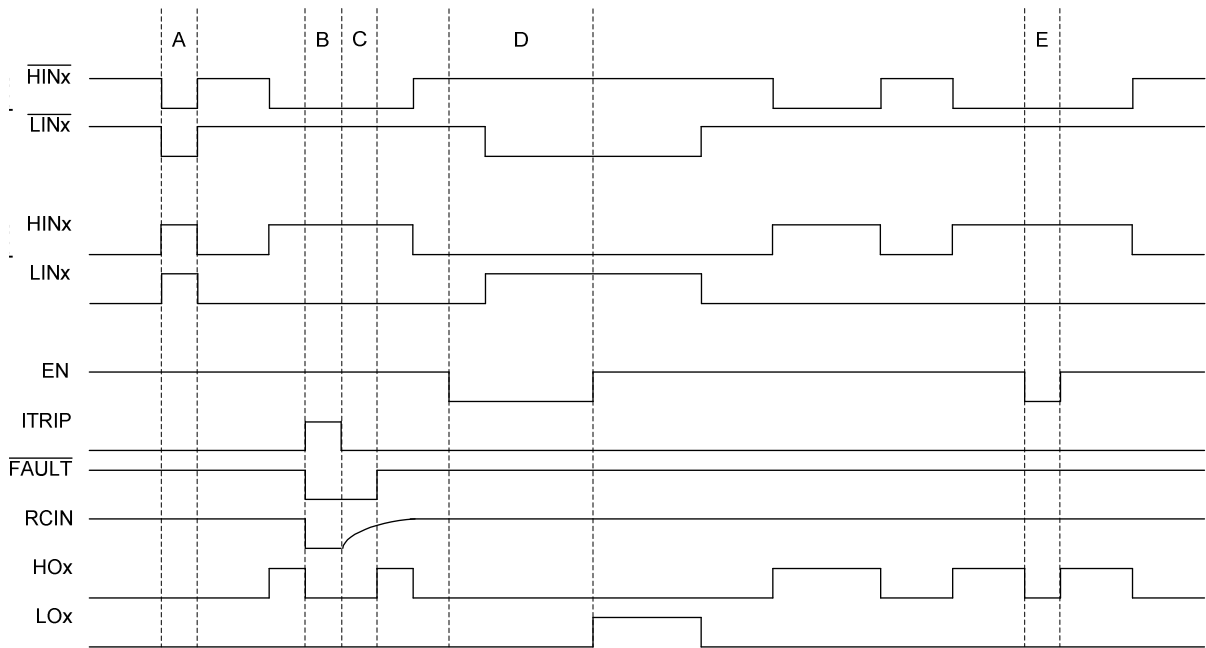
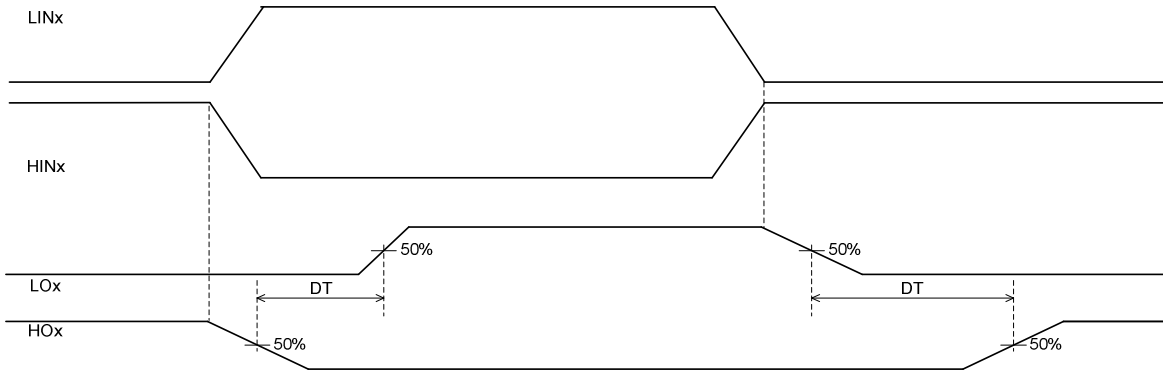

Figure 4: Input/output timing diagram
Figure 6: Illustration of deadtime
During interval A of Figure 4, the HVIC has received the command to turn-on both the high- and low-side switches at the same time; as a result, the shoot-through protection of the HVIC has prevented this condition and both the high- and low-side output are held in the off state.
Interval B of Figures 4 and 5 shows that the signal on the ITRIP input pin has gone from a low to a high state; as a result, all of the gate drive outputs have been disabled (i.e., see that HOx has returned to the low state; LOx is also held low), the voltage on the RCIN pin has been pulled to 0 V, and a fault is reported by the FAULT output transitioning to the low state. Once the ITRIP input has returned to the low state, the output will remain disabled and the fault condition reported until the voltage on the RCIN pin charges up to $V_{RCIN,TH}$ (see interval C in Figure 6); the charging characteristics are dictated by the RC network attached to the RCIN pin.
During intervals D and E of Figure 4, we can see that the enable (EN) pin has been pulled low (as is the case when the driver IC has received a command from the control IC to shutdown); this results in the outputs (HOx and LOx) being held in the low state until the enable pin is pulled high.
This family of HVICs features integrated deadtime protection circuitry. The deadtime for these ICs is fixed; other ICs within IR's HVIC portfolio feature programmable deadtime for greater design flexibility. The deadtime feature inserts a time period (a minimum deadtime) in which both the high- and low-side power switches are held off; this is done to ensure that the power switch being turned off has fully turned off before the second power switch is turned on. This minimum deadtime is automatically inserted whenever the external deadtime is shorter than DT; external deadtimes larger than DT are not modified by the gate driver. Figure 6 illustrates the deadtime period and the relationship between the output gate signals.
The deadtime circuitry of the IRS23365D is matched with respect to the high- and low-side outputs of a given channel; additionally, the deadtimes of each of the three channels are matched. Figure 6 defines the two deadtime parameters (i.e., DT_1 and DT_2) of a specific channel; the deadtime matching parameter (MDT) associated with the IRS23365D specifies the maximum difference between DT_1 and DT_2 . The MDT parameter also applies when comparing the DT of one channel of the IRS23365D to that of another.